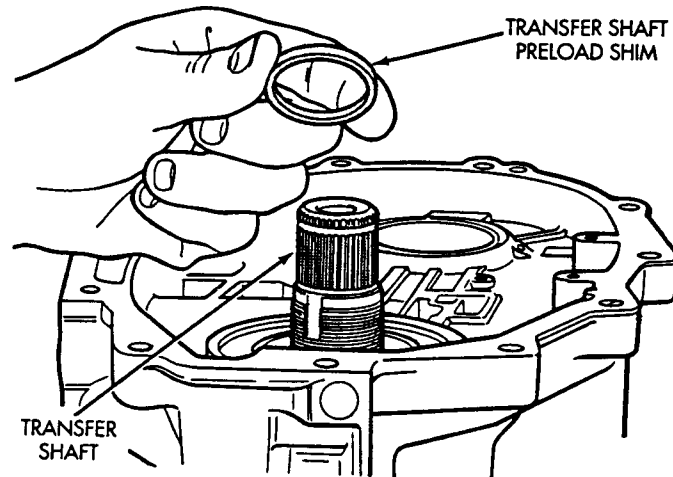

Fig. 32 Transfer Preload Shim Installation
(36) Install Transfer shaft preload shim (Fig. 32). Use the original shim that was taken out of transaxle if possible. If original shim is not available, use the thickest shim as a starting point. Refer to Transfer Shaft Rear Shim Chart for available sizes.